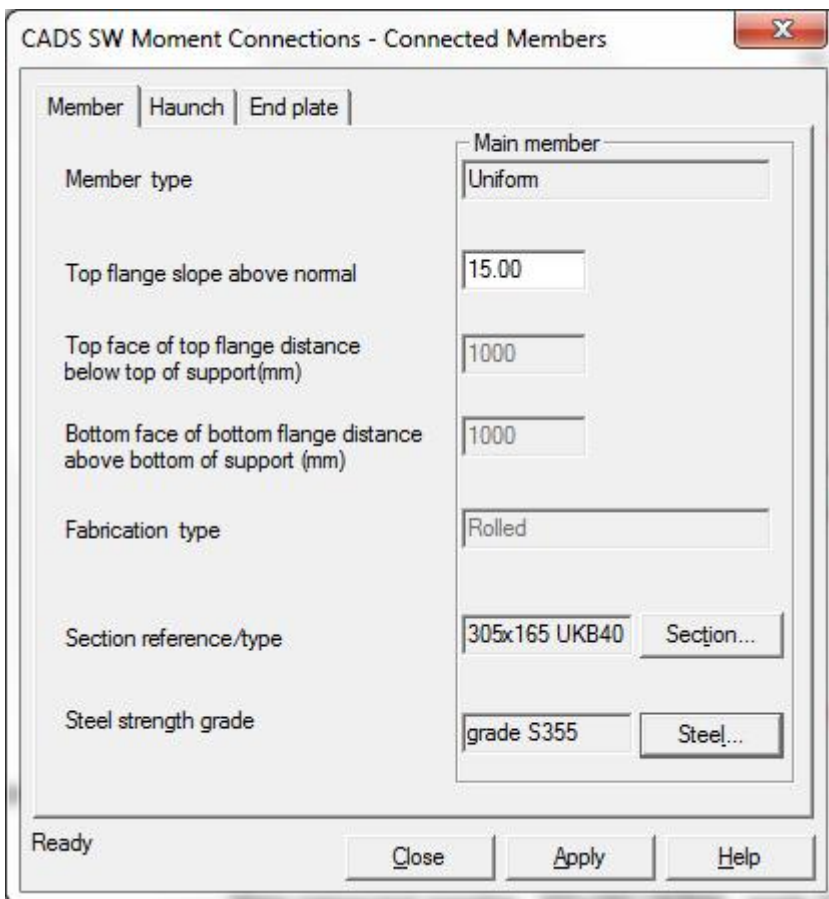

Fig 4.18 Connected members dialog with slope and steel grade edited.
3. It so happens that the default sections are 305x165UKB 40 exactly as required for this example. In other circumstances the required sections would have to be selected in the *Connected member* and *support member* dialogs. However the default slope is 20° and we require 15° so open the *Connected member* dialog and edit accordingly as shown in fig 4.18. The steel grades are also edited from S275 to S355 in both dialogs.